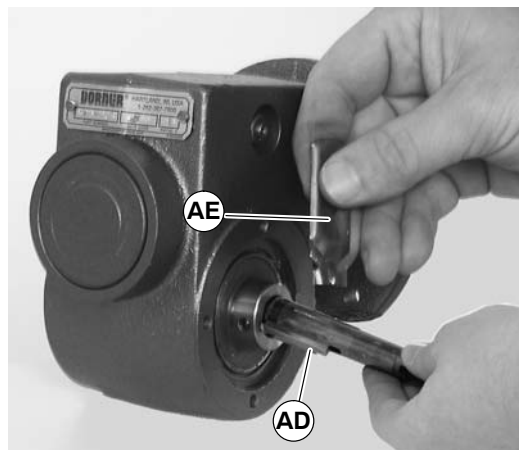

Figure 39
- Apply grease (AE of Figure 39) to shaft.